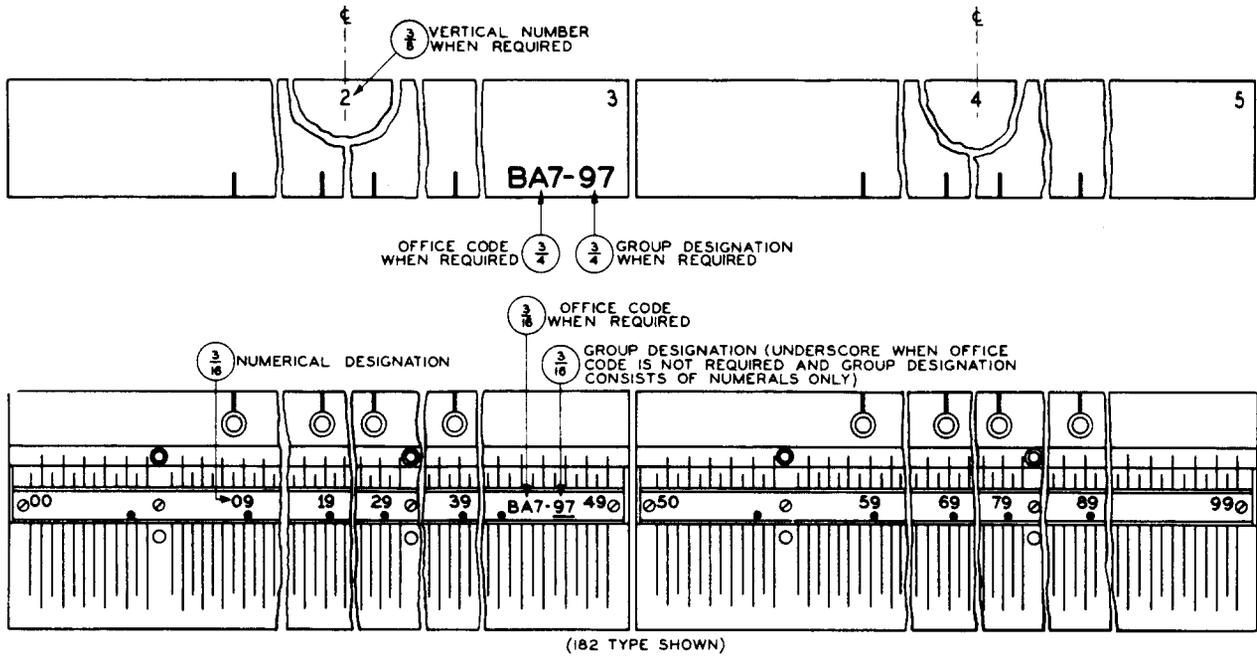
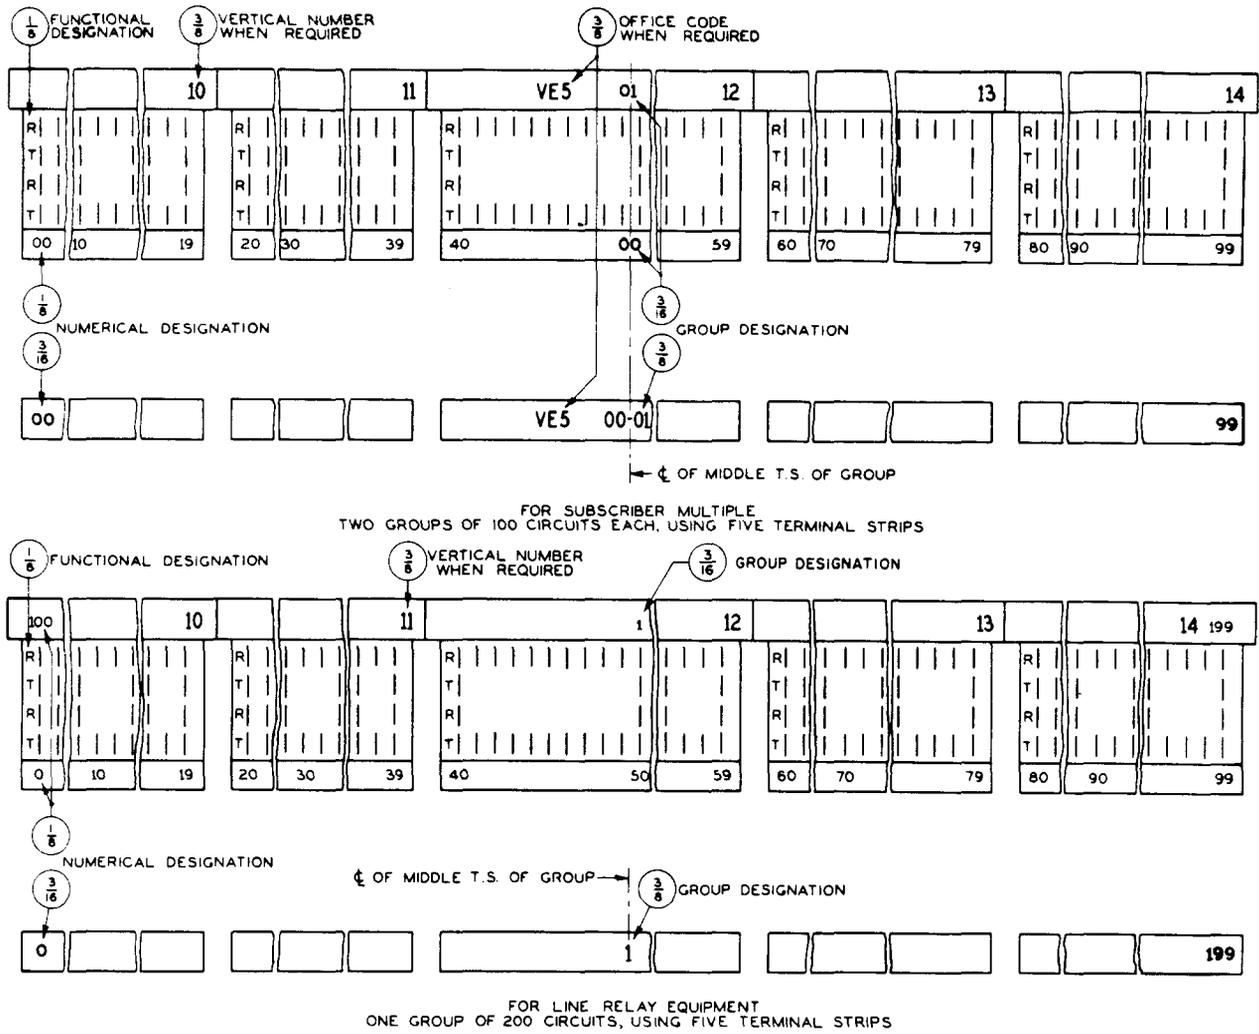

Fig. 11 - Terminal Strips - 65, 182, and Similar Types - Subscriber Lines - Panel, Step by Step, PBX, and No. 1 Crossbar MDF
Fig. 13 - Terminal Strips - 231 and Similar Types - Subscriber Lines - Panel and No. 1 Crossbar MDF
(1) **When subscriber multiple terminates on HMDF,** stamp the group designation (hundred number), preceded (in multiunit offices) by the office code, on the face of the terminal strip clamping strip in the middle of each group of 100 lines. Typical designations (with office code): BA7-00, BA7-01, etc, to BA7-99. (See Fig. 11, 12, and 13.) Also, on main distributing frames only, stamp similar designations (office code only in case of Fig. 13 which requires group designations on the side of all sets of terminal strips) on the top edge of the terminal strip fanning strip in the center of each group of 100 lines, on the bottom shelf, and on the first shelf above the mezzanine platform (when furnished).
(2) **When line relay equipment terminates on HMDF,** stamp the group designation (line relay bay number 1, 2, etc) on the face of the terminal strip clamping strip for each group of 100 line relays (0-99, 100-199, 200-299, 300-399). (See Fig. 11, 12, and 13.) Also stamp the line relay bay number on the top edge of the terminal strip fanning strip in the middle of each group of 100 lines, on the bottom shelf, and on the first shelf above the mezzanine platform (when furnished).
by the office code, on the face of the terminal strip clamping strip in the middle of each group of 100 lines. Also, on main distributing frames only, stamp applicable hundred number with office code (in multi-unit offices) on the top edge of the terminal strip fanning strip in the middle of each group on the bottom shelf. (See Fig. 11.) Typical designations (with office code):
(2) **On terminal strips for line relay equipment**, stamp the group designation (line relay group number G1, G2, etc) on the face of the terminal strip clamping strip in the middle of each group of 100 line relays (0-99 and 100-199). Also, on main distributing frames only, stamp applicable line relay group number on the top edge of the terminal strip fanning strip in the middle of each group on the bottom shelf. (See Fig. 11.)
(d) **No. 1 Crossbar**: Stamp the group designation (line link column number 00, 01, etc, 100, 101, etc) on the face of the terminal strip clamping strip and on the top edge of the terminal strip fanning strip in the middle of each group of 100 lines, except that when a mezzanine platform is furnished, stamping of the group designation on the fanning strip shall be omitted on the ninth shelf from the floor. (When 231-type terminal strips are used, group designations are required on the top for all groups as shown in Fig. 13.) Also, on the top edge of the fanning strips, stamp the office code (two codes where all line link column numbers are common to two offices) with the column numbers of the first, fourth, seventh, etc, and last groups of terminals 100 lines wide, on the fourth shelf above the floor and on the fourth shelf above the mezzanine platform (when furnished). When some of the line link column numbers are associated with one office code only and others with two codes,
stamp the office code or codes with each column number. (See Fig. 11, 12, and 13.)